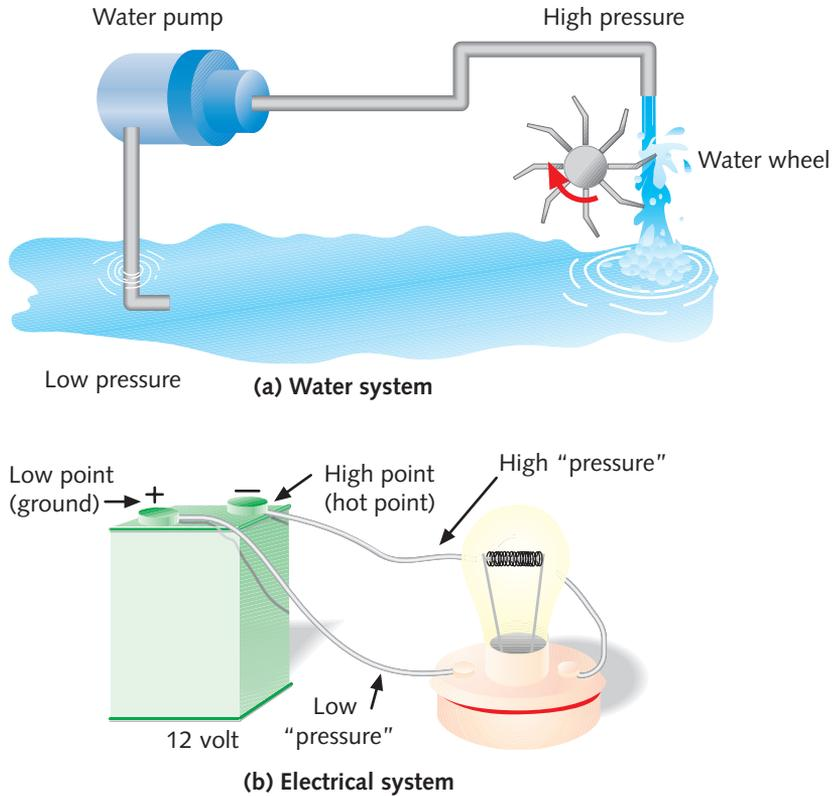
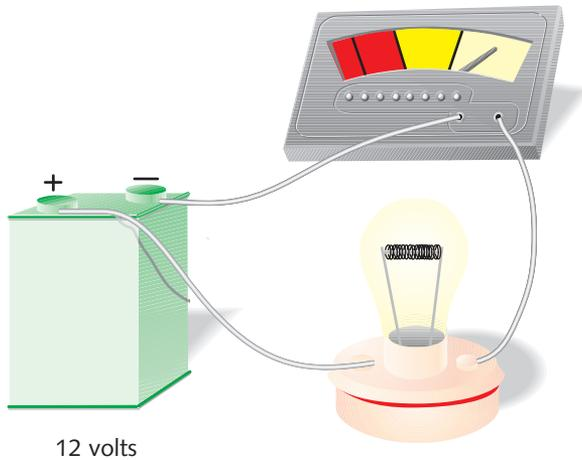

Figure E-1 Two closed systems: (a) water system with pump, wheel, and pool; (b) electrical system with battery and light bulb
Figure E-3 Battery and bulb circuit with ammeter in line
Electricity is energy and water is matter, but the two have enough in common to make some comparisons. Consider Figure E-1. The water system shown in the top part of the figure is closed— that is, the amount of water in the system remains the same because no water enters and no water leaves the system. The electrical system in the lower part of the figure is similar in several respects. Think of electricity as a stream of tiny charged particles (electrons) that flow like water along the path of least resistance.
Electron flow goes from the hot point, or negative terminal, to the ground, or positive terminal. Because early theories of electricity assumed that electricity flowed from positive to negative, most electronics books show the current flowing from positive to negative. This theory is called conventional current flow; if it were used in Figure E-1, the figure would show reversed positive and negative symbols.
The first measure of electricity listed in Table E-1 is potential difference. First, consider how to measure the water pressure in Figure E-1. If you measure the pressure of the water directly above the water wheel and then measure the pressure just as the water lands in the pool, you find that the water pressure above the wheel is greater than the water pressure below it.
The volume of electrons (or electricity) flowing through an electrical system is called current. Look back at Figure E-1. The volume or amount of water flowing through the water system does not change, although the water pressure changes at different points in the system. To measure that volume, you pick one point in the system and measure the volume of water passing through that point over a period of time. The electrical system is similar. If you measure the number of electrons, or electrical current, at any point in this system, you find the same value as at any other point, because the current is constant throughout the system. (This assumes that the entire closed water or electrical system has only a single pipe or a single wire.) Electrical current is measured in **amperes (A)**, abbreviated **amps**. Figure E-3 shows an **ammeter**, a device that measures electrical current in amps. You place the ammeter in the path of the electrical flow so that the electrons must flow through the ammeter. The measurement, which you take with the power on, might not be completely accurate because the ammeter can influence the circuit.
Refer again to the water system in Figure E-1. To increase the volume of water flowing through the system, you increase the difference in water pressure between the low and high points (which is called the pressure differential). As the pressure differential increases, the water flow (or current) increases, and as the water pressure differential decreases, the water flow (or current) decreases. Another way of saying this is: There is a direct relationship between pressure differential and current. An electrical system works the same way. As the electrical potential difference (or voltage) increases, the electrical current increases; as the voltage decreases, the current decreases. There is a direct relationship between voltage and current.